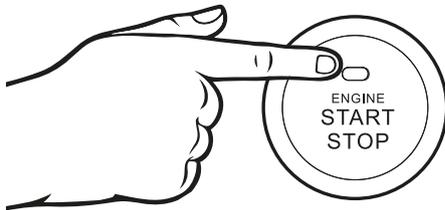

Figure 8: Electric Start Button - PUSH
6. Push and hold the engine start push button for 1 second and release (see Figure 8). The engine will automatically set the choke and begin the start sequence.